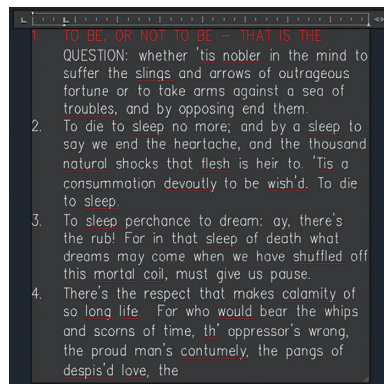

FIGURE 10.21 Additional formatting within the MTEXT editor is usually required after combining text entities.
6. Press Esc to deselect. Double-click the text column on the left. Remove the numerals and extra spaces, and add returns where needed. Select the paragraphs, choose Bullets And Numbering, and select Numbered. Figure 10.21 shows the desired result. Close the text editor.